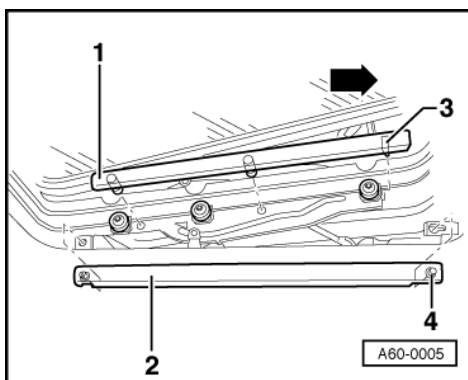

Fig.2 -> Removing cover
- ◆ Removing and installing => Fig. 2.
- Detach left and right covers towards centre of vehicle => Fig. 2.